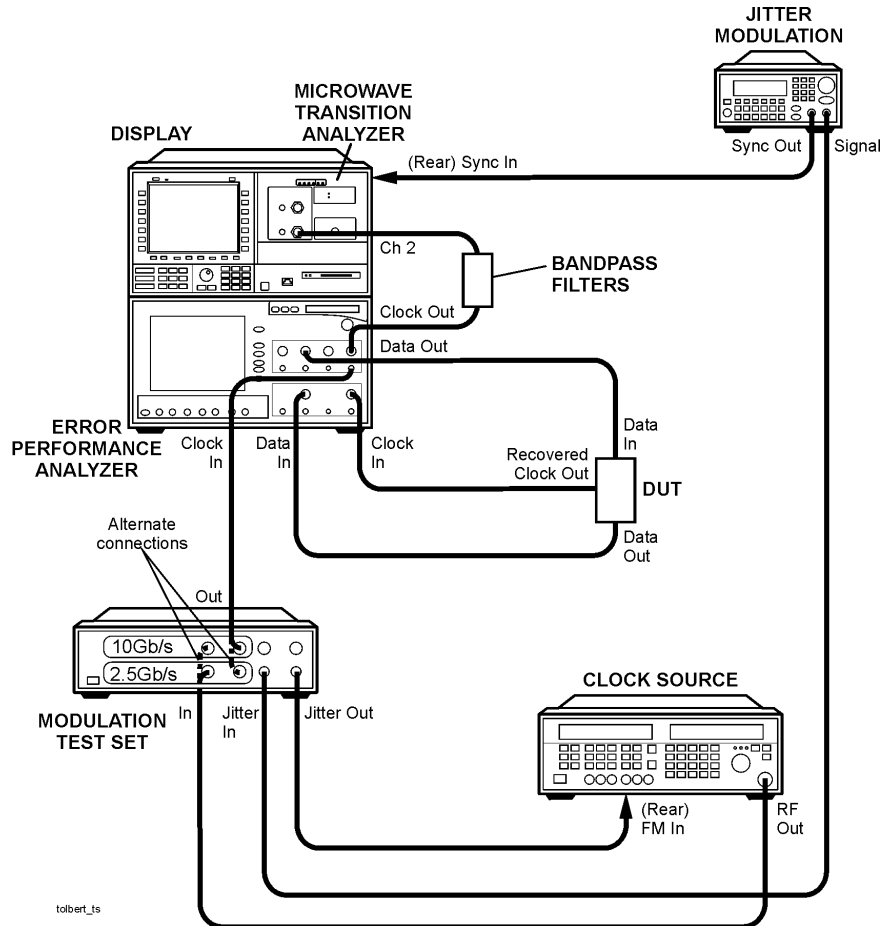

Figure 3-13. Jitter Tolerance Connections with Test Set and Stand-Alone¹ Error Performance Analyzer and Stand-Alone² Clock Source
- For stand-alone error performance analyzers (70843A/B/C and 86130A), refer to Figure 3-13 on page 3-38.